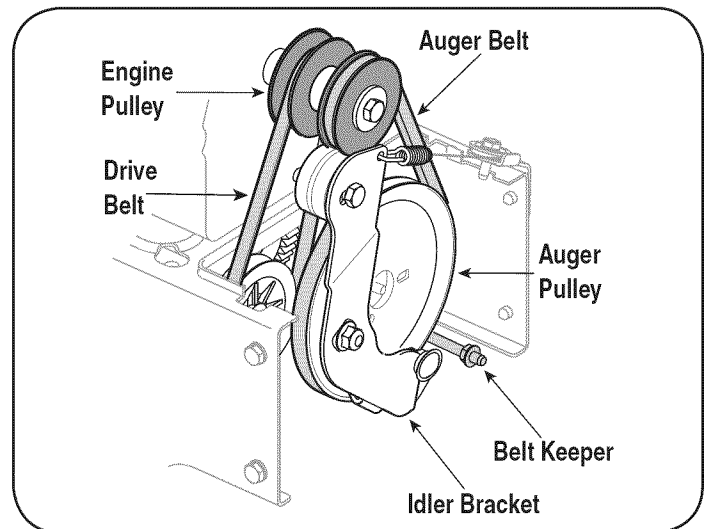

Figure 18
2. Slip the front auger belt off of the engine pulley, pushing it forward and rolling it off of the pulley. See Figure 18.
5. Place the new drive belt into the groove on the engine pulley. See Figure 18.